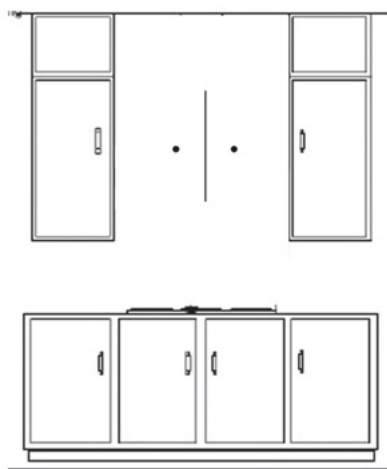

Figure 1
1. Find the center of the wall where you are installing the hood. Make sure there is sufficient bracing, such as wooden beams, to hold the weight of the hood. Mark your center line and measure out from the center to find your two mounting points. Make sure your mounting points are level when you mark them. It is recommended to install the hood directly into wood supports. *Figure 1*
2. Mark the mounting points and install the two mounting screws provided leaving the heads out 1/4" to mount the hood. *Figure 1*